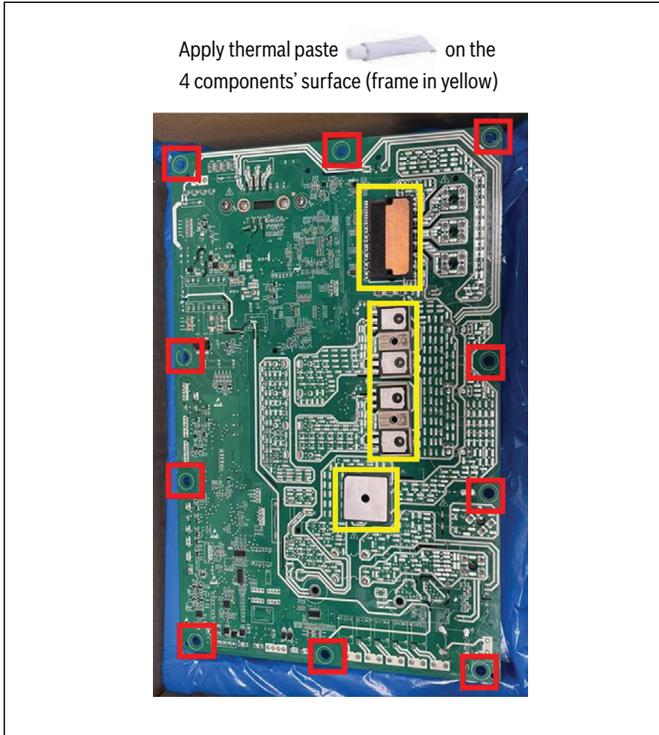

Figure 3
11. Apply the thermal paste on the 6 components of the replacement board (refer to Figure 3).
12. Install the 6 plastic standoffs on the new board (refer to Figure 3: items framed in red).